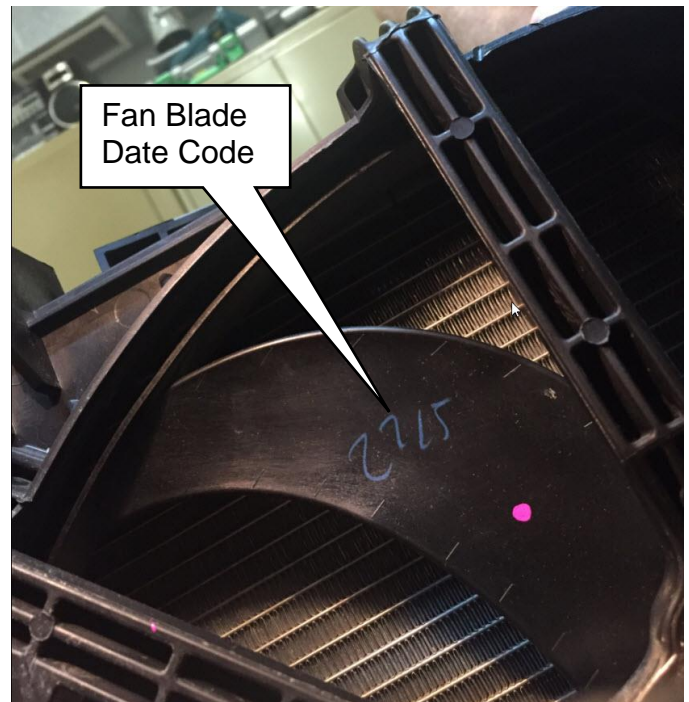

Figure 2
- Inspect the backside (engine side) of the fan blades (Refer to Figure 2).